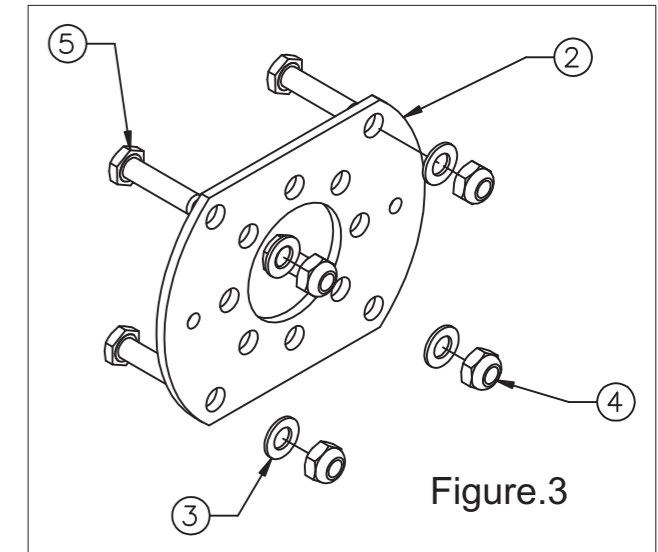

Figure.3
- Install the Helm mounting bracket(Fig.3) on the dashboard using the Bolts/Washers/Nylock Nuts provided with the Helm as per specifications below: